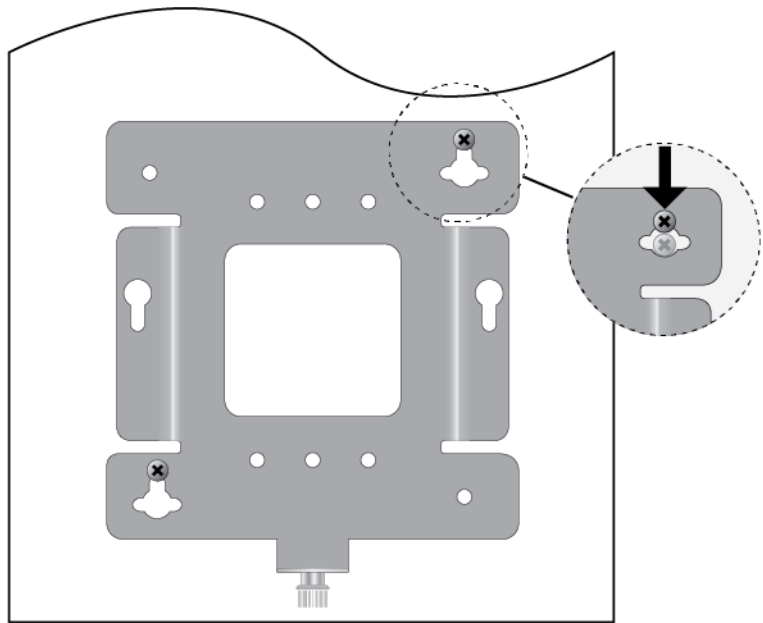

Figure 14. Installing the Mount Bracket On the Screws
6. Insert the openings of the bracket key-hole slots under the two screw heads and slide the bracket into the narrow end of the key-hole slot openings. See Figure 14.